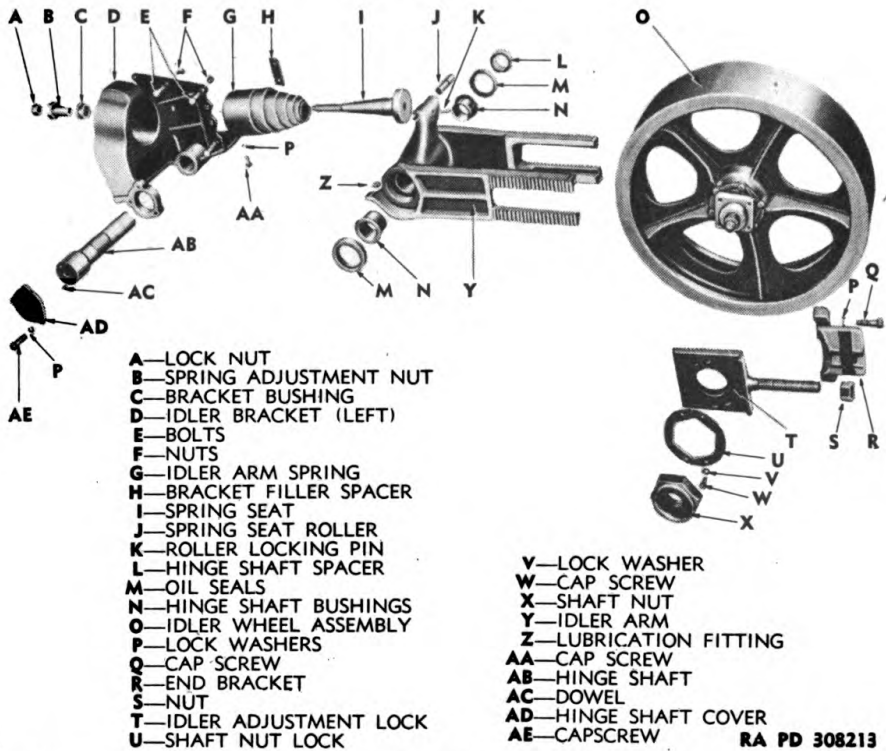

Figure 111 — Trailing Idler Brackets Disassembled
a. Figure 111 shows the idler wheel and all parts of the idler brackets. The removal of the major components separately is outlined in TM 9-785.